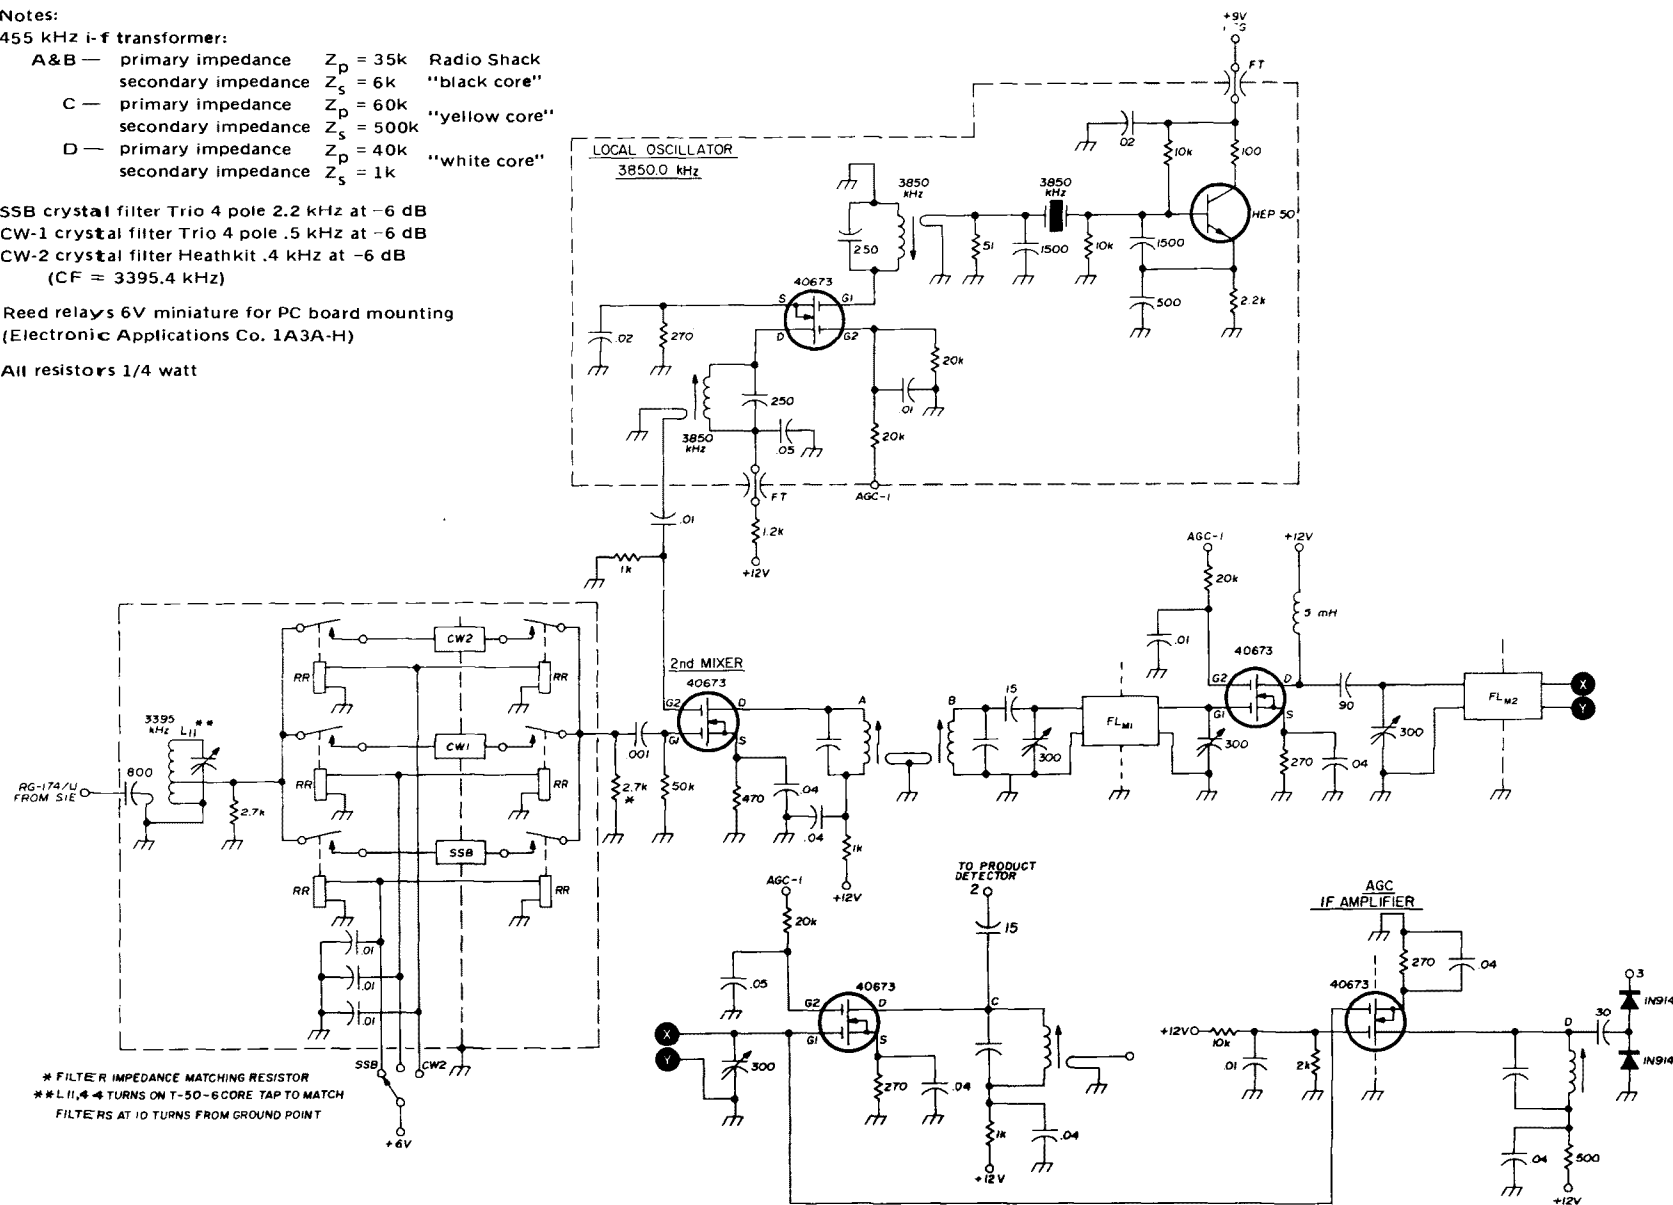

fig. 3. Crystal filter, local oscillator, second mixer, and agc amplifier schematic. Filter sections are selected by remotely controlled reed relays.
Fig. 3 shows the crystal filter arrangement. To obtain the above attenuation figure, filters were placed against a ground plane (double-clad printed circuit board, the face next to the filter grounded on one spot only). The second mixer is of classic design, and the local oscillator operates in a very stable mode. The second i-f strip is on 455 kHz and uses two Collins ssb mechanical filters.
the loop plane and direction of the wave propagation, as in fig. 1C. The resulting figure-eight radiation pattern is thus a perfect pair of circles tangent to one another as shown in fig. 3.
For several basic reasons, nearly all practical loop antennas are electrostatically shielded by means of an open-turn shield. One reason is that electrostatic shielding is a convenient way of achieving a capacitance balance between the two opposite halves of the loop and ground. Without this balance the figure-eight pattern would be distorted and the nulls misplaced and obscured. Second, the open-turn shield shown in fig. 3 forms a balun, permitting the loop to feed an unbalanced load without upsetting the loop-to-ground balance. And third, electrostatic shielding renders the loop insensitive to the electric component of a passing wave. This has an insignificant effect on the reception of a wave propagated in the far field (radiation field). However, in the case of several types of man-made noise interference, the effect is to reduce the reception of the noise.
fig. 3. Unshielded loop antenna (A) and shielded loop antenna (B). There is no difference in the radiation patterns of the unshielded or shielded loop (C) if the output is balanced and if the capacitance to ground from both sides of the loop are equal. Loop pattern distortion results from these types of imbalances, and shielding the loop is one way of achieving the desired balance.